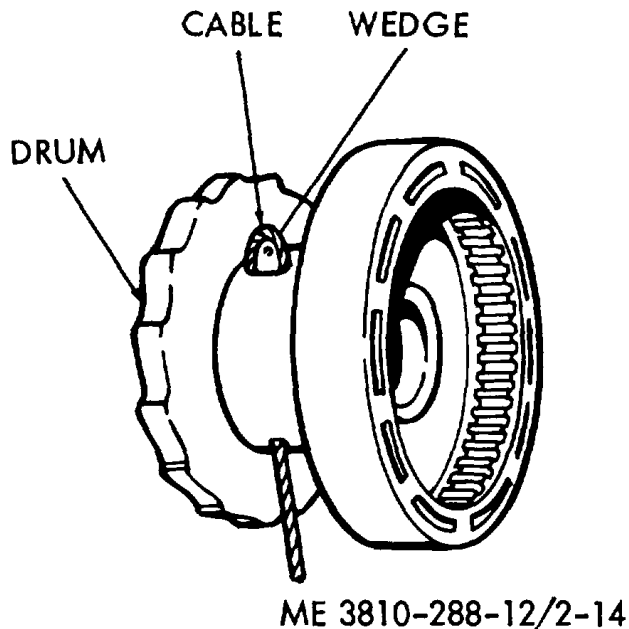

Figure 2-14. Securing cable to drum
(6) Secure the boom hoist line to the boom hoist drum as shown in figure 2-14, and spool the slack cable on the drum.
(2) Reeve the main hoist line on the rear main drum, and reeve the secondary hoist line (if used) on the front main drum. If a jib is used, reeve the jib line on the rear main drum, and the main hoist line on the front main drum. Secure the hoist lines to the drums as shown in figure 2-14.
(3) A single-part line is reeved over the center boom point sheave, directly to a weighted hook, and is deadended at the hook. A weighted hook must be used for single line operation, instead of a hook block.
(4) A two-part line is reeved over the center boom point sheave, around one hook block sheave, and deadended at the boom point.
(5) A three-part line is reeved over the left boom point sheave, around a hook block sheave,
hoist drum. Secure the line to the drum (fig. 2-14) and wrap sufficient line on the drum to close the clamshell bucket.